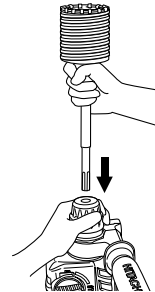

Fig. 18
- (2) Mount the core bit to the rotary hammer (Fig. 18).